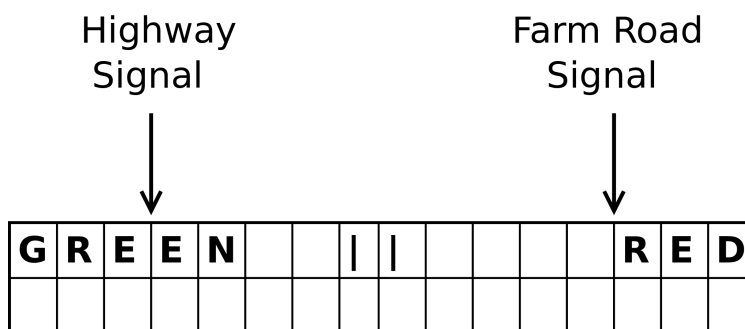

Figure 7: Display Format
- (b) Press the “South” button to reset the design and observe the output on the LCD screen. Figure 7 illustrates the display format.